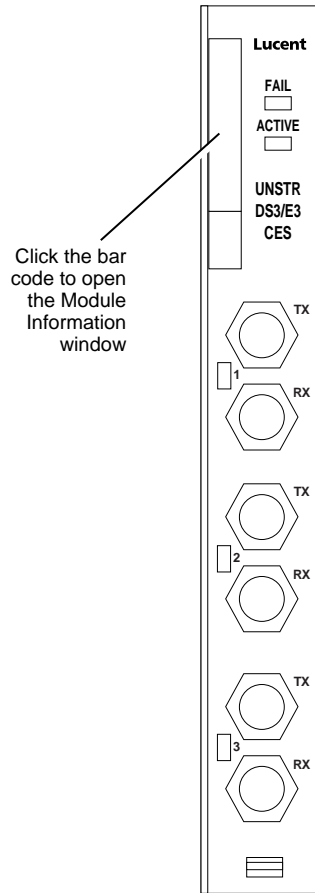

Figure 5-14. Obtaining Hardware Data from a Module
- 1 Double-click the bar code image on the Front Panel (see Figure 5-14), or click the name of the module in the Device Tree.